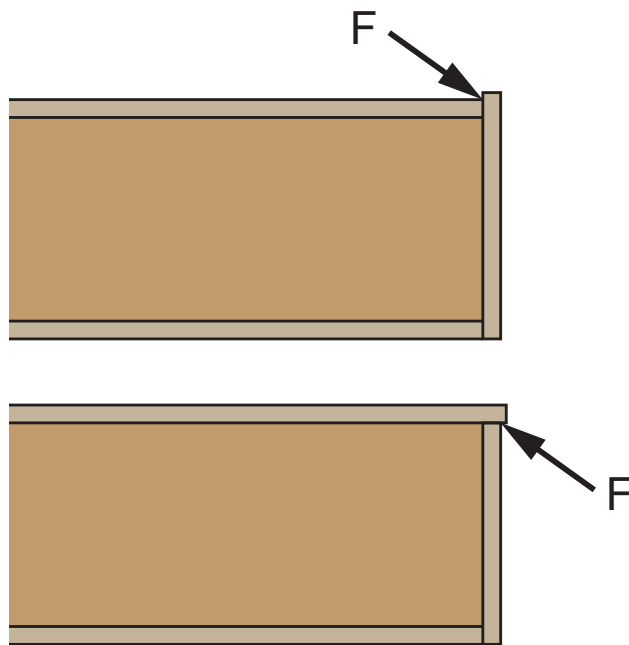

Figure 23 - Overlap
b) Overlap (See Figure 23, F) shall not exceed: